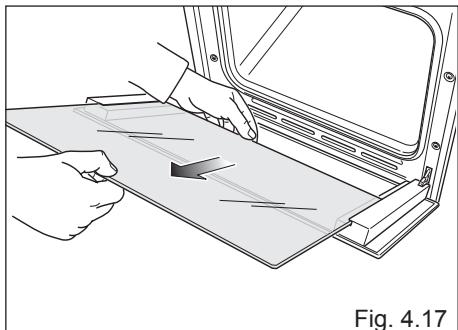

Fig. 4.17
- Gently pull out the inner pane of glass (fig. 4.17).